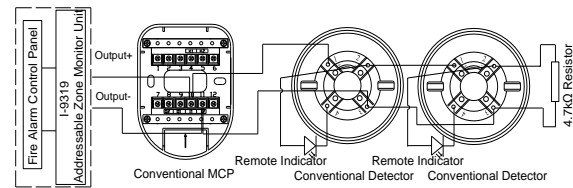

Fig. 6
2. When the detector is connected with conventional fire alarm control panel (those within the dotted line are equivalent to a conventional fire alarm control panel) or I-9319 Addressable zone monitor unit in series, if an end of line resistor is connected to the end of output loop, then no diode is connected to the detector base. The system connection is shown in Fig. 6.